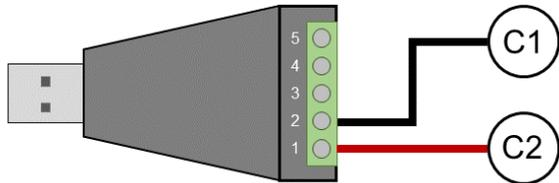

Figure 1a. USB-to-Serial adapter connection diagram.
- 1.2. Connect terminal 1 on the adapter to communication terminal C2. (*Fig. 1a*)
- 1.3. Connect terminal 2 on the adapter to communication terminal C1 (*Fig. 1a*)